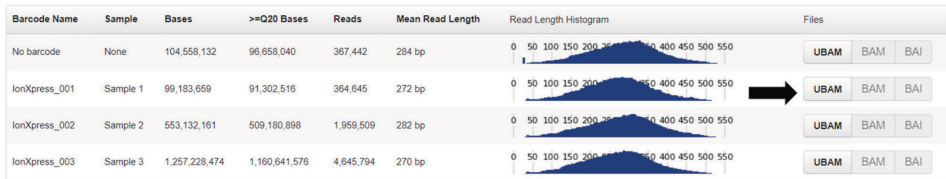

Figure 8. Unaligned reads in BAM format.
- Click the **UBAM** button in the row corresponding to the individually indexed samples and column labeled **Files** in the table (Figure 8). These are the unaligned reads in BAM format, with the index separated for each sample. Save the .UBAM file to a local disk. The file is usually several hundred megabytes to several gigabytes, depending on the size of the sequencing chip being used.